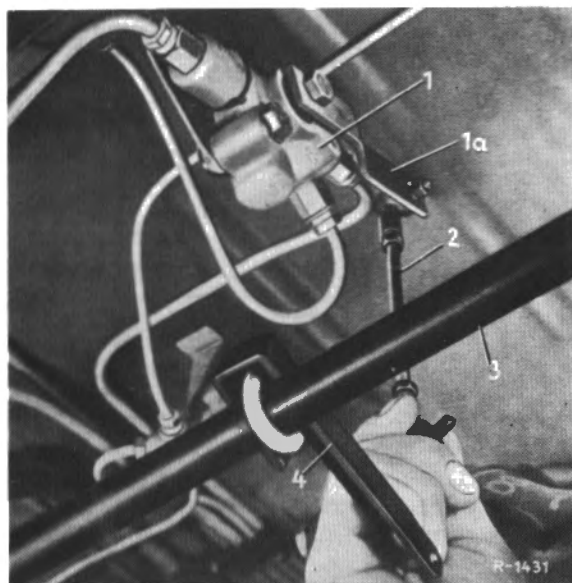

Fig. 40-5/3
5. Get the car to its design height by actuating the leveling valves (for values see Table in Job No. 40-0). If the lever on the leveling valve is moved upward, air enters, if it is moved downward, air is exhausted (Fig. 40-5/3).